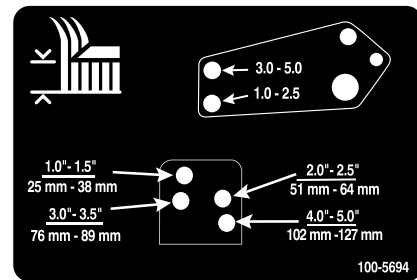

Figure 23
- Align the damper-link holes with the selected height-of-cut bracket holes in the mower-deck frame, insert the clevis pins, and install the hairpin cotters (Figure 23).